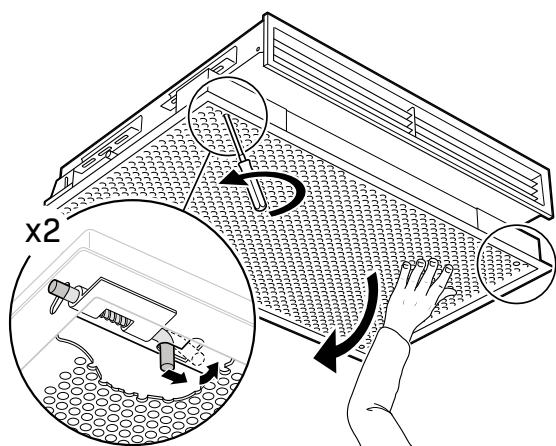

FIGURE 12
- 2) Unfasten the screws on the corners of the beam and the front plate and disconnect the flexible hose from the water connection. (See **FIGURE 12**)